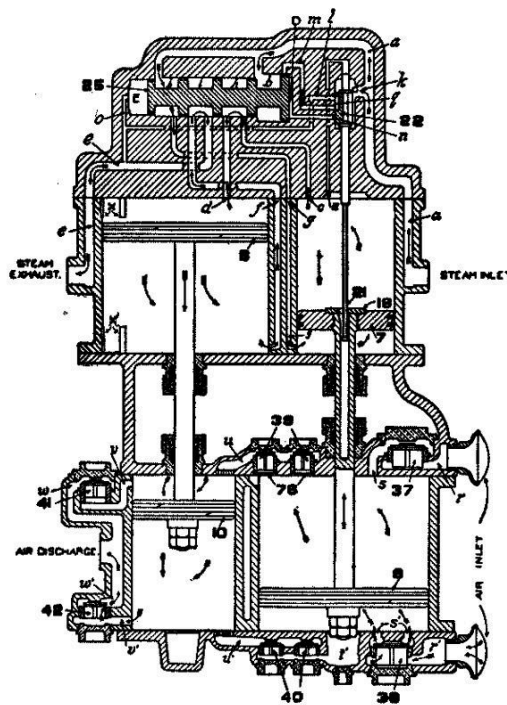

Fig. 21: Automatic Control Valve. Full Release.
A. Air enters the control valve at the connection marked "BP" (Fig. 21), which leads to chamber "F" above the piston 3, forcing it down, uncovering the feed groove "G" in the bushing, allowing air to feed past the piston into the slide valve chamber, and then through port "H" to the auxiliary reservoir. The air will feed through in this manner until the auxiliary reservoir and brake pipe pressure equalize. When a gradual reduction of brake pipe pressure is made, it will be felt in chamber "F", above piston 3, creating a difference in pressure on the two sides of the piston, which will cause it to move upward.
A. In this position of the brake valve the port to which the release pipe "IV" is connected is open to the exhaust, thus allowing the air in the control cylinder and reservoir to escape to the atmosphere. The reduction of pressure in the control cylinder "D" below that in chamber "B" causes the control piston 2 to move up, carrying with it the exhaust valve 7 to release position, opening the exhaust port "N", thus allowing the air to return from the brake cylinders through ports "C" and "N" to the atmosphere, releasing the brake. (See Fig. 21.)